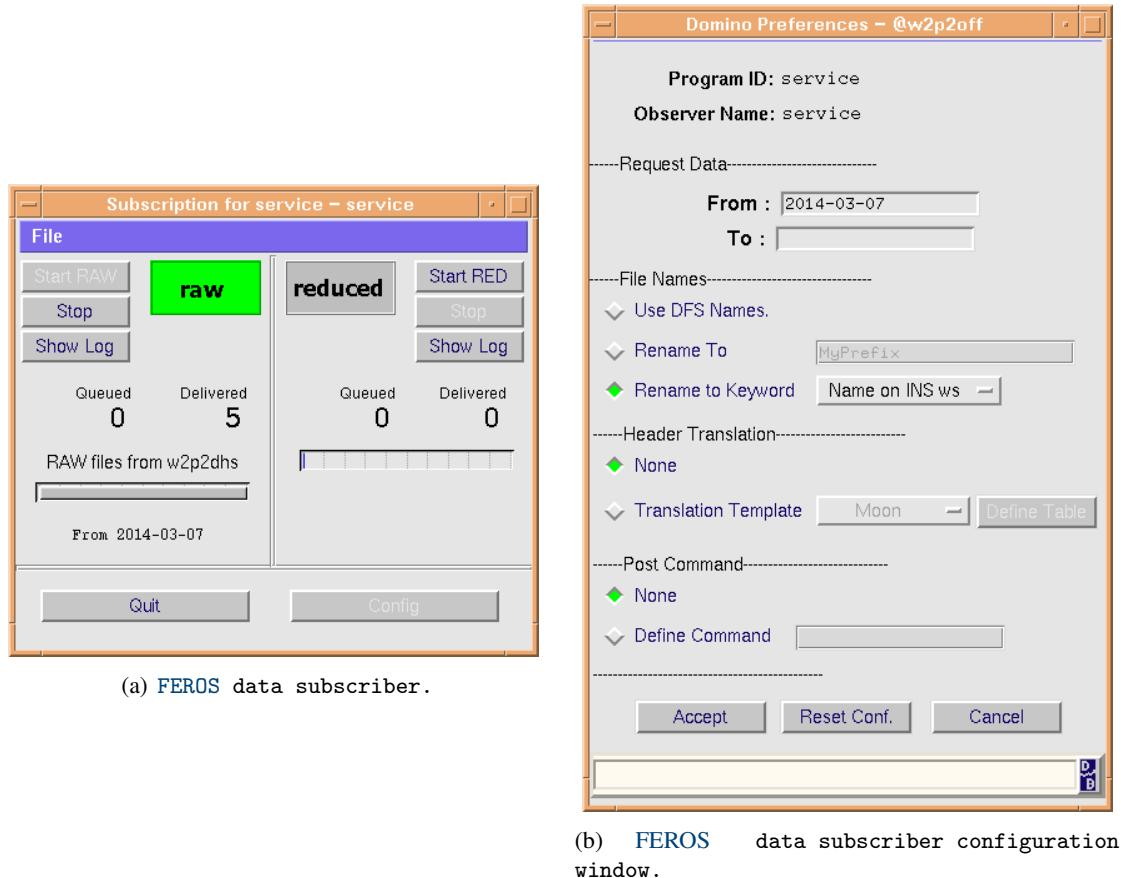

Figure 8.3: FEROS Data Subscriber.
- Stop Data Subscriber and **DRS** at the **DRS** computer (Fig. 8.3(a)).
- Configure Data Subscriber (Fig. 8.3(b)).